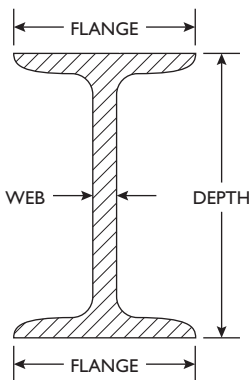

Fig. 39-2 Standard I-beam.
The symbol used to indicate the beam shape is the letter (I) because of the beam's resemblance to the capital letter "I." The usual method of billing is to state the depth, the symbol, the weight per foot, and finally the length—for example, $15 \text{ I } 42.9 \times 18'4\frac{1}{2}"$ (Fig. 39-2).